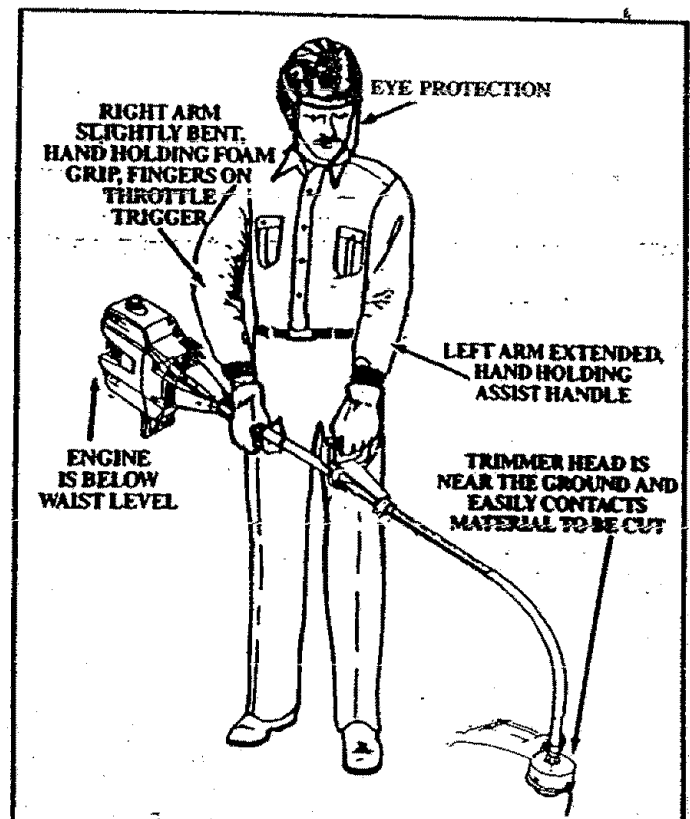

Figure 10
### 6. OPERATING POSITION -- Figure 10
a. Before starting the Engine, stand as shown in Figure 10 and check for the following: